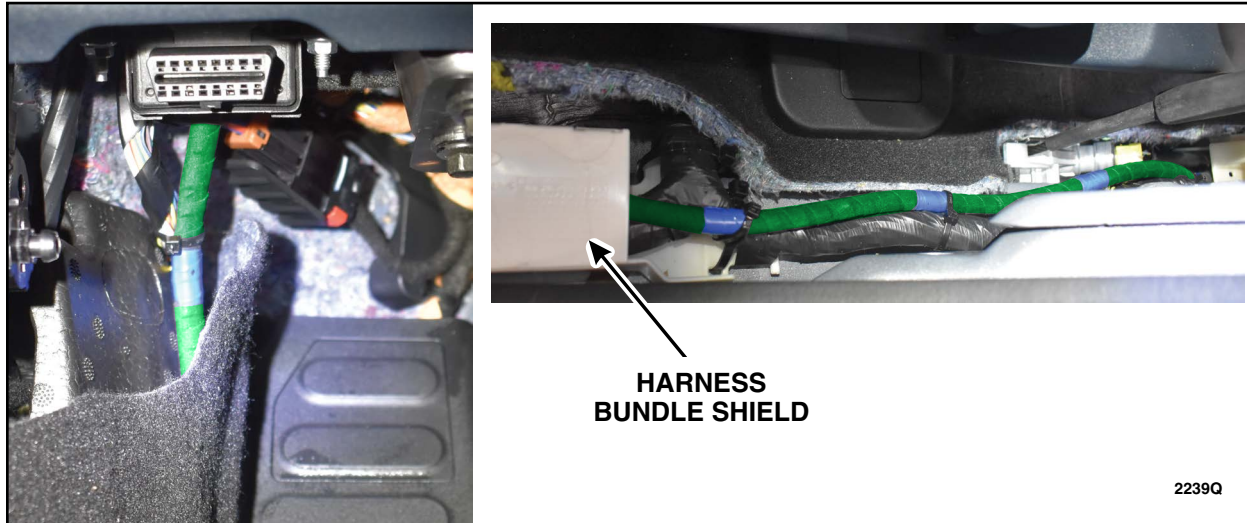

FIGURE 18
23. From inside the vehicle route the harness through the pillar areas. See Figure 18.